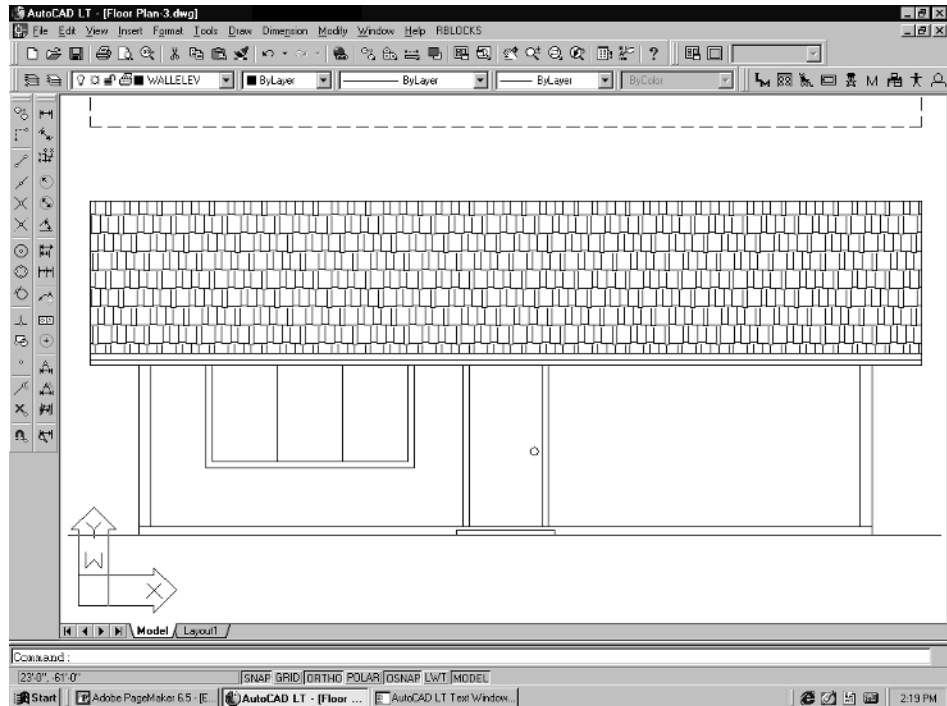

Figure 4-52
3. Select the pattern **AR-RSHKE** by double-clicking on it. You will be taken back to the Boundary Hatch dialog box. Select the **Pick Points** button. You will be prompted to *Select internal point*. Pick inside the roof. The roof outline should “light up.” Hit **Enter**. The Boundary Hatch dialog comes up again. Pick the **Preview** button in the lower left-hand corner. This will show you the hatch and prompt you to hit **Enter** to return to the dialog. At that point you can either make changes to the scale and other settings, or you can hit **OK** to accept the hatching as it is. See Figure 4-52.